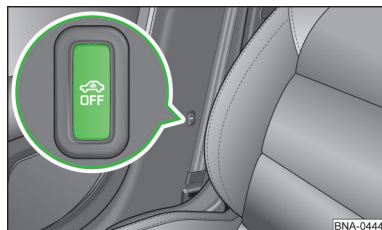

Fig. 25
- › Press the  button on the centre column on the driver side » fig. 25; the  symbol lights up in the button.